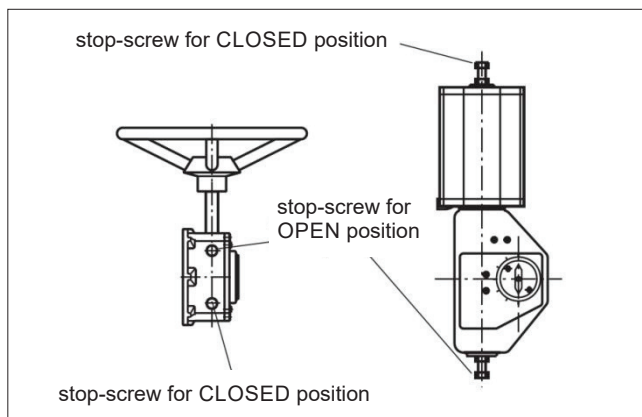

Fig. 17 Open and Closed Positions of the Actuator
- Adjust the circular movement of the ball with the hexagon screws located at the side of the housing (see Figure 17). The stop-screw for the open position is nearest to the handwheel on the side of the housing and the screw for the closed position is at the opposite end. The turning directions for the handwheel are marked on the wheel.
- If re-installing an actuator on the same valve, stop screw adjustment should not be necessary. If installing on a new valve or the alignment is off, adjust the ball open and closed positions by means of the actuator stop screws located at both ends. (See Figure 17). An accurate open position can be seen in the body flow bore. Check that the yellow arrow on the actuator indicates the ball flow opening position. **Keep fingers out of the flow bore!**